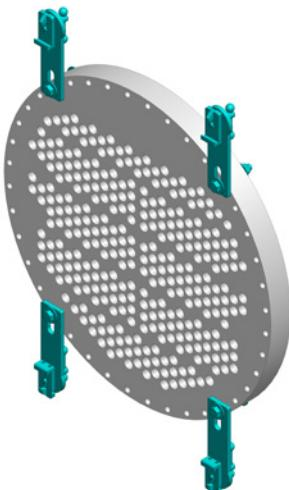

FIGURE 1
QUICK CLAMPS (LWP 518) are for use with heat exchanger flanges that provide a robust clamping surface or if flange holes are inaccessible. Align clamps on the surface of the flange to maximize flange engagement to clamps. (Figure 1)
SLOTTED QUICK (LWP 552) AND PLATE CLAMPS (LWP 519) are for use with heat exchanger flanges that have easily accessible bolt holes. Use quick clamps or plate clamps, depending on the spacing of the hole pattern. (Figures 1 & 3)
1. Mount the appropriate frame **Positioner Clamps** to the tube bundle as shown on the previous page. (Shown in Figure 1 with Slotted Quick Clamps) Positioner Clamps should be aligned horizontally with the direction of the tube rows. (**Figure 1**)